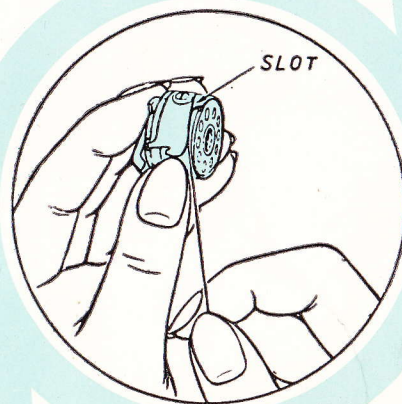

Fig. 5
2. While holding the bobbin case as before, grasp the thread end with your right hand, and guide it into the cross slot (Fig. 5).
3. Then pull it through under the tension spring of the bobbin case (Fig. 5) until it enters the delivery eye. (Fig. 6).